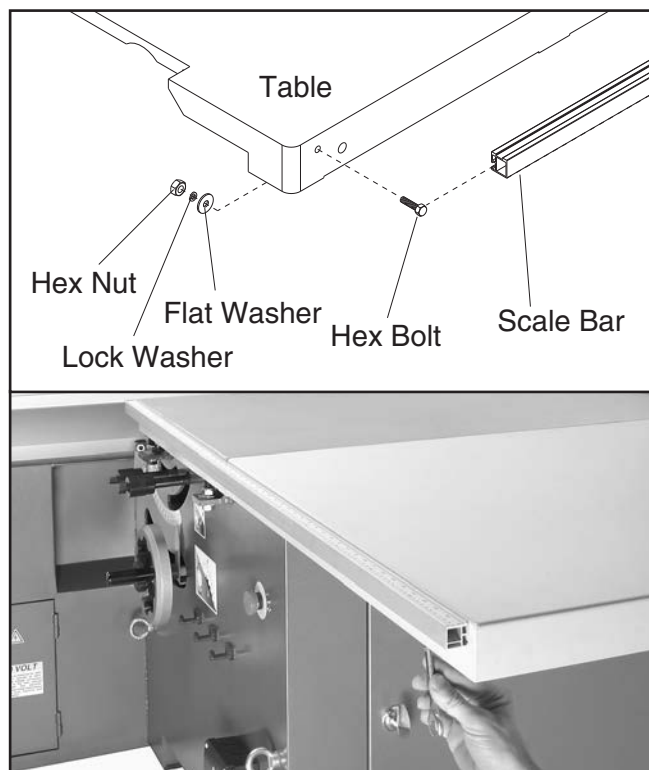

Figure 36. Attaching the scale bar.
20. Mount the scale bar to the cast iron table and large extension table, making sure it is even with the top of the tables. Use the three M6-1 x 25 hex bolts, three 6mm flat washers, three 6mm lock washers, and three M6-1 hex nuts, as shown in **Figure 36**, to mount it. (The top of the hex bolts slide into the scale bar.)